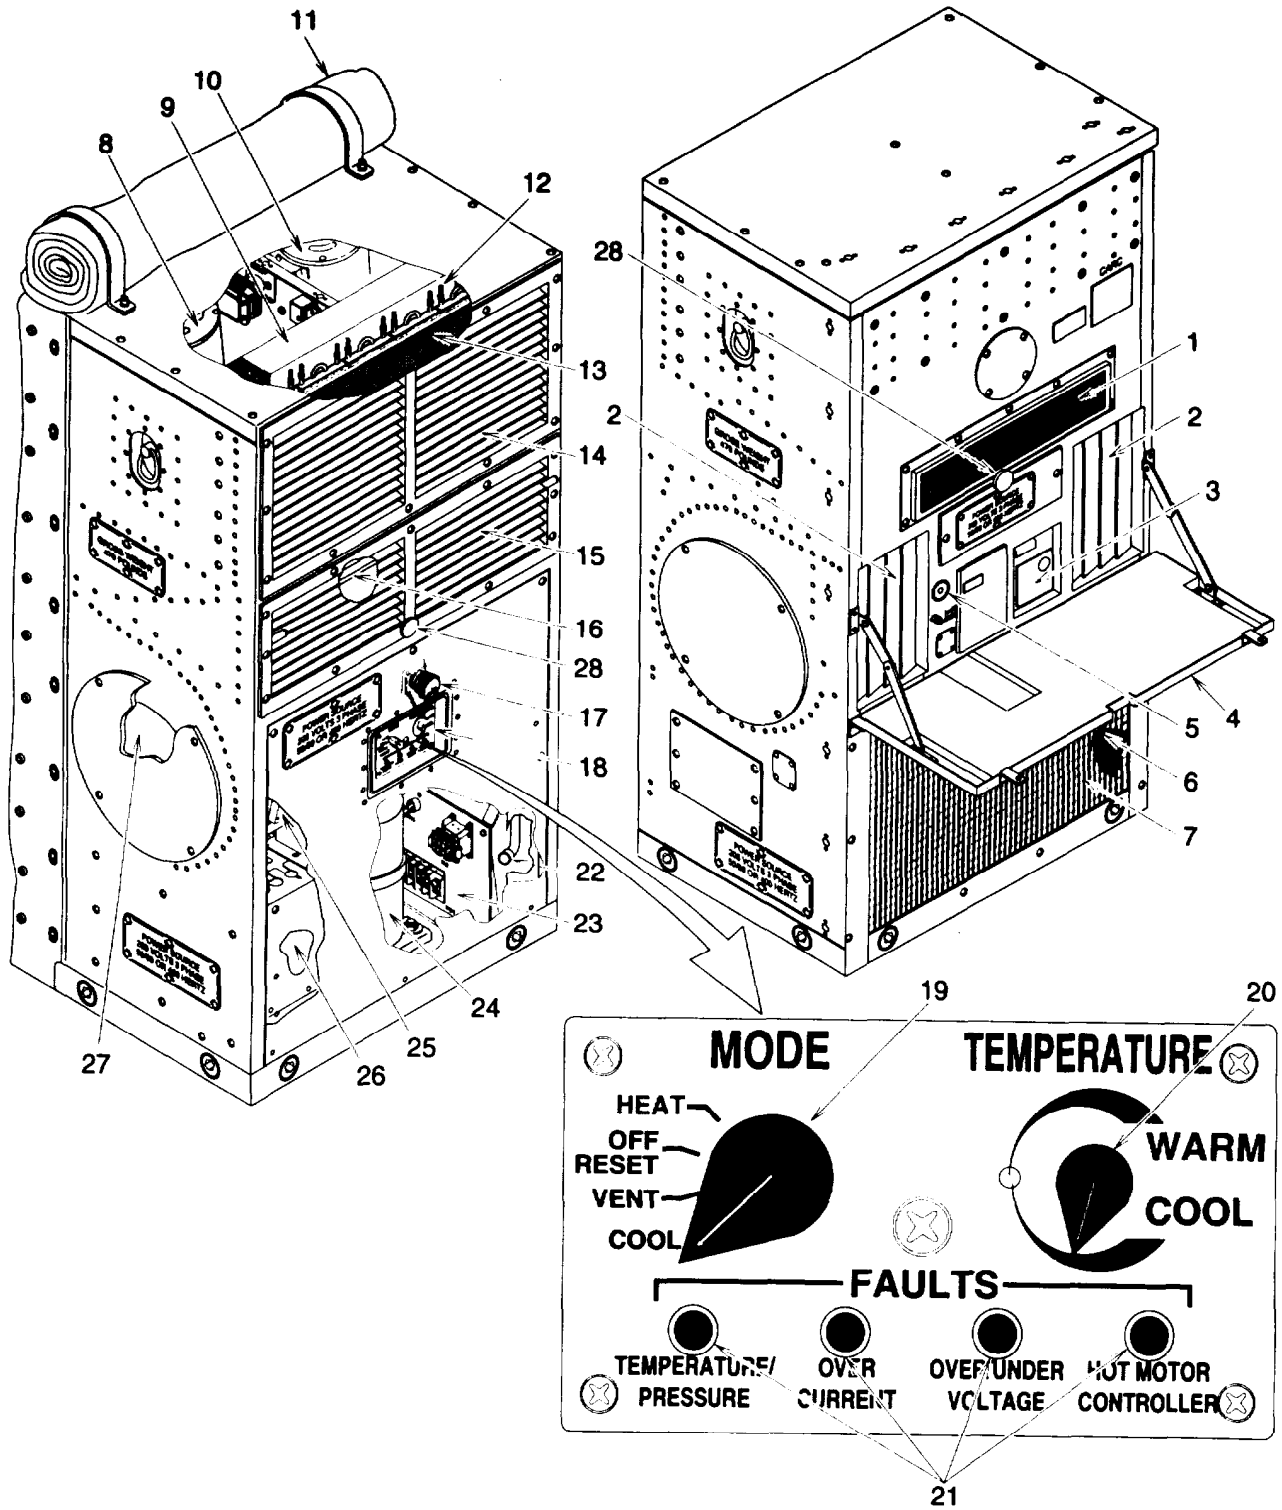

Figure 1-1. Location of Major Components
**1-10. LOCATION AND DESCRIPTION OF MAJOR COMPONENTS.** The information that follows references the location and description of major components found in Figure 1-1.
- Fresh Air Filter Element (1). Provides filtered outside air.
- Condenser Air Damper Vanes (2). Controls air flow across the condenser coil to maintain optimum refrigerant system discharge pressure.
- Safety Control Box Assembly (3). Contains HIGH and LOW PRESSURE CUTOOUT switches (S5 and S6) and control circuit breakers (CB1).
- Condenser Discharge Air Deflector Door (4). Shown in open operational position. When closed, it protects the rear (exposed) surfaces of the air conditioner.
- Liquid Sight Indicator (5). Allows visual inspection and indicates condition of liquid refrigerant when the air conditioner is operating in the cool mode.
- Condenser Coil (6). Serves as a heat exchanger by transferring heat from the refrigerant passing through the tubing to the air passing over the tubing and fins.
- Condenser Coil Guard (7). Protects coil from damage.
- Left Evaporator Fan and Motor (8). Draws air into the evaporator section and exhausts it through the evaporator (cooling) coil and heater elements into the room or enclosure.
- Evaporator Coil (9). Serves as a heat exchanger by transferring heat from the air passing through the tubing and fins to the refrigerant passing through the tubing.
- Right Evaporator Fan and Motor (10). Draws air into the evaporator section and exhausts it through the evaporator (cooling) coil and heater elements into the room or enclosure.